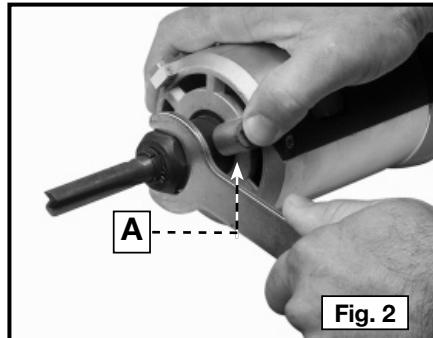

Fig. 2
- Press the spindle lock button (A) Fig. 2.
5. Press the spindle lock button (A) Fig. 2.